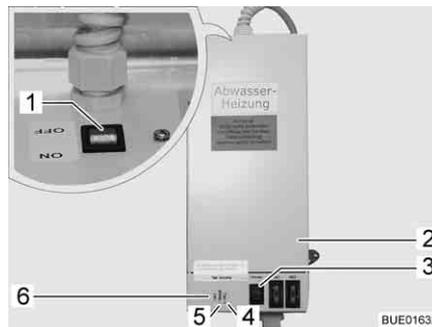

Fig. 209 Transformer with control unit
The 230 V AC/12 V DC transformer (Fig. 209,2) is installed in the wardrobe or in the storage area beneath the seating group, depending on the model.
- Indicator lamp (Fig. 209,5) lights up in green: Regulator in operation.
- Indicator lamps (Fig. 209,4 and 6) light up in red: Waste water pipes are warmed.
A test button (Fig. 209,3) is integrated in the housing with which the control unit can be operated for a short time. By pressing the test button, the function of the warming unit can be tested, even if the ambient temperature is above 5 °C.
- Turn switch (Fig. 209,1) on the transformer (Fig. 209,2) to "ON".
- Turn switch (Fig. 209,1) on the transformer (Fig. 209,2) to "OFF".